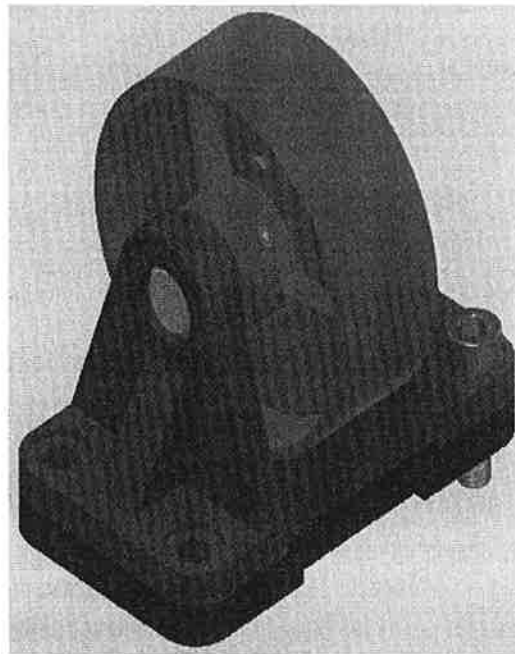

Figure 14-45
16. In the JOINT palette, set the *Type* to **Rigid** to permit no degree of freedom (Rigid). Define the joint origins to locate the component as it is shown in Figure 14-45.